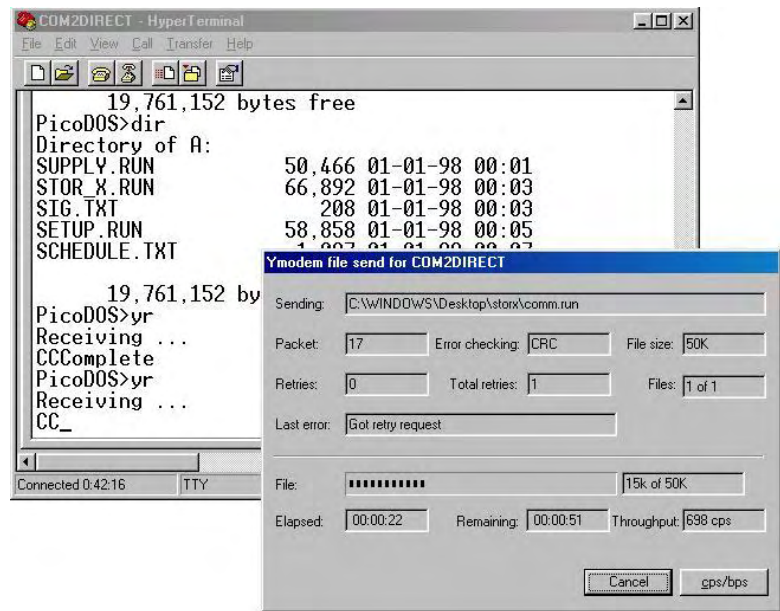

Figure 43 - HyperTerminal – Ymodem transfer progress
15. When the transfer process begins a screen appears displaying the progress, Figure 43.